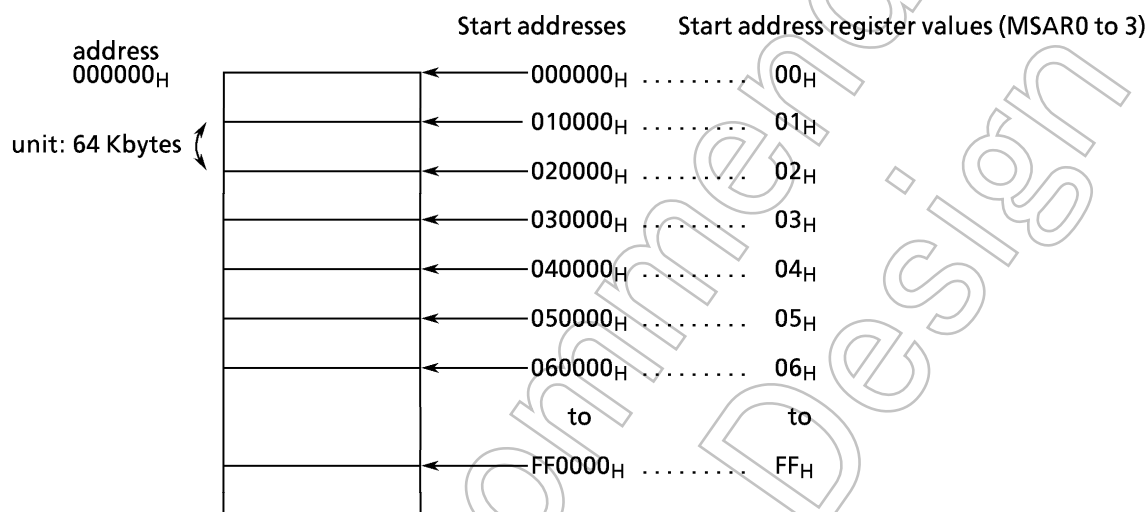

Figure 3.6 (8) Start Address Settings
As shown in the address decoder block diagrams (Figure 3.6 (2) to (4)), the address areas for which the chip select signals are output can be specified by enabling or masking comparison of the A8 to A20 (for $\overline{CS0}$), A8 to A21 (for $\overline{CS1}$), and A15 to A22 (for $\overline{CS2}$ and $\overline{CS3}$).